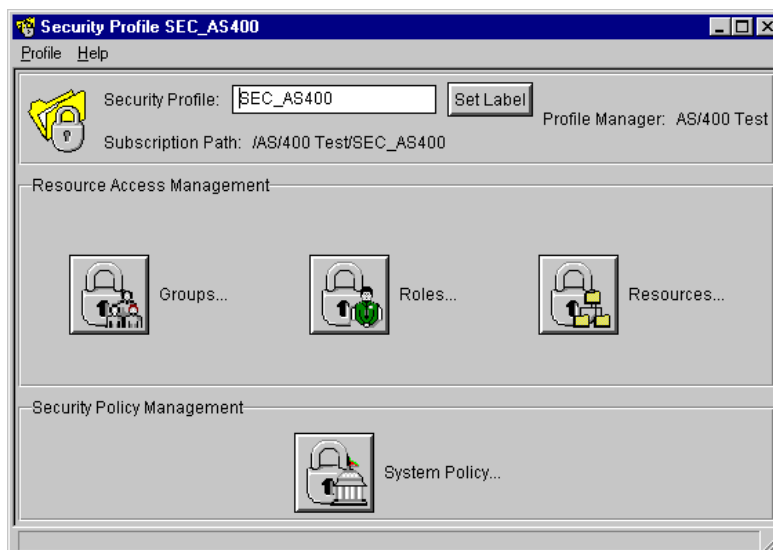

Figure 313. Security Profile screen
2. Double click on the new profile icon to open the Security Profile screen shown in Figure 313.